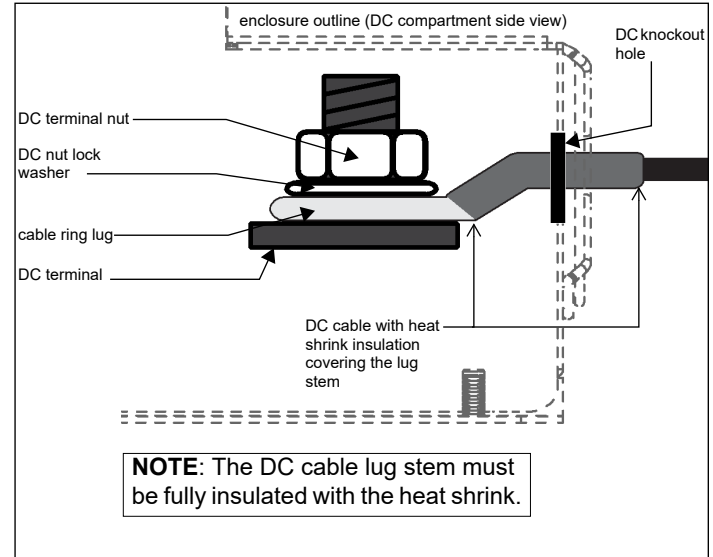

Figure 5 DC Cable Connections
Refer to Figure 5.
7. Attach the cable ring lug that will join the cable to the inverter DC terminal. Cover the lug stem with heat shrink insulation (see Figure 5) to ensure that the lug does not touch the enclosure.
- Fasten the DC terminal nut (set aside earlier) to the terminal bolt. Tighten the nut to a torque of 71–80 in-lb (8–9 N-m). Do not overtighten. Make the connection snug enough so the cable lug does not move around on the DC terminal. Center it through the DC knockout hole and do not let it touch the edge. See Figure 5, “DC Cable Connections” on page 31.